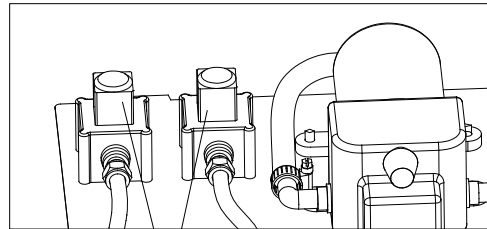

fig. 39
- Are the solenoid valves (fig. 39) defective or not release?